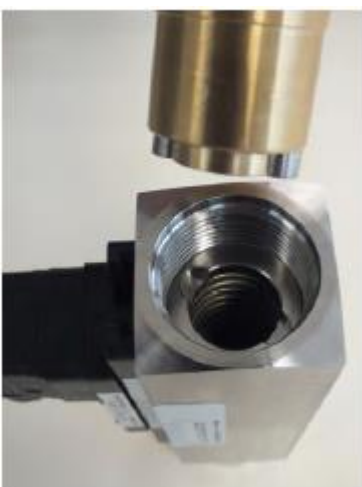

Fig. 43: Insert threaded ring insertion tool (outlet)
- 8. ►** Insert the threaded ring insertion tool into the device outlet (Fig. 43) and turn until it rests in the keyway of the threaded ring